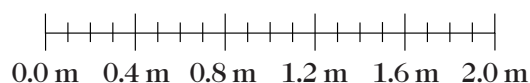

Figure 18.3 How to mark the tape for measuring average speed of the fan car
5. Label your tape distances along the tape as shown in Figure 18.3.